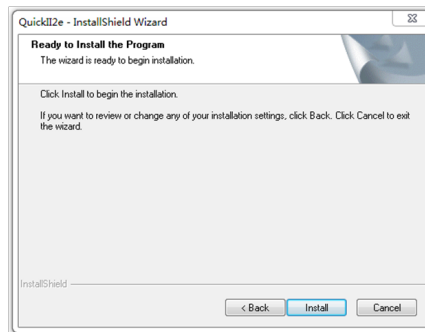

Fig 1.5
- Click “next”, enter the next step in fig. 1.5
4. Enter the next frame of “Ready to install the program”, as shown in Fig1.5